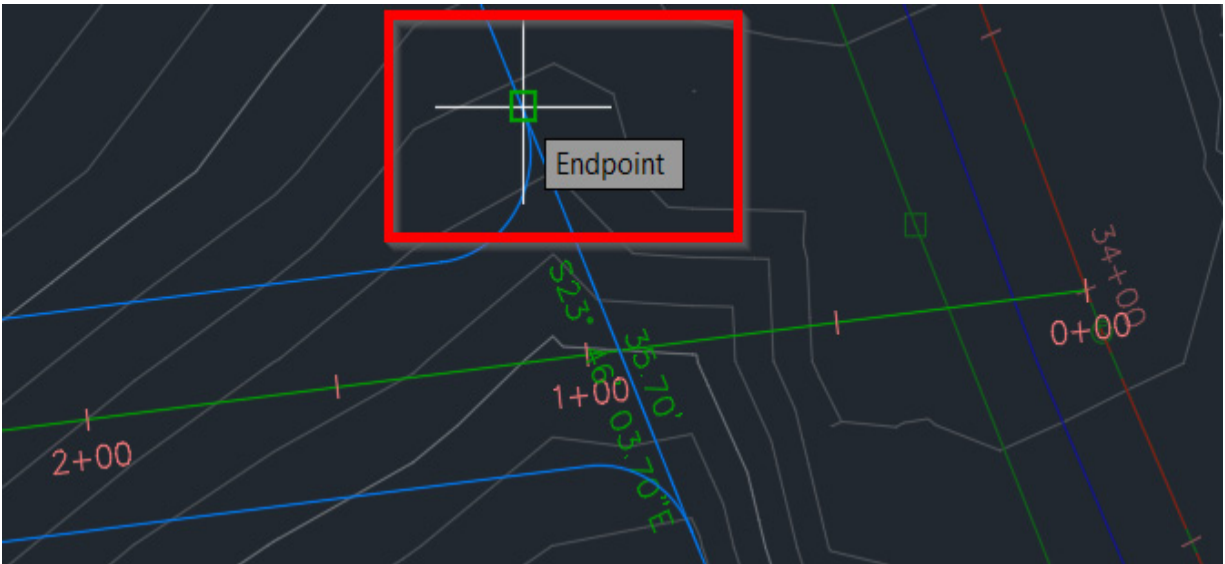

Figure 9.16 – Snapping to the endpoint of our right-of-way parcel
frontage. Let's go ahead and snap to the endpoint of our right-of-way parcel, on the north side, closest to York Highway, as shown in *Figure 9.16*:
2. After snapping to the northern endpoint of our right-of-way parcel shown in *Figure 9.16*, we'll then be prompted at our command line to select the endpoint of our frontage, which will be our southern endpoint.